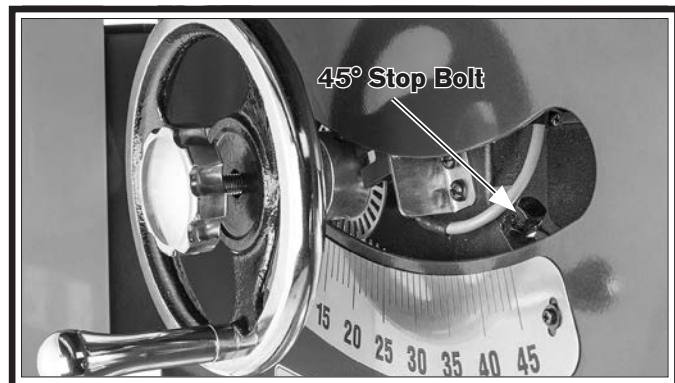

Figure 121. 45° stop bolt location.
5. Loosen jam nut on 45° stop bolt (see **Figure 121**), adjust stop bolt up or down according to how far off blade was from 45°.